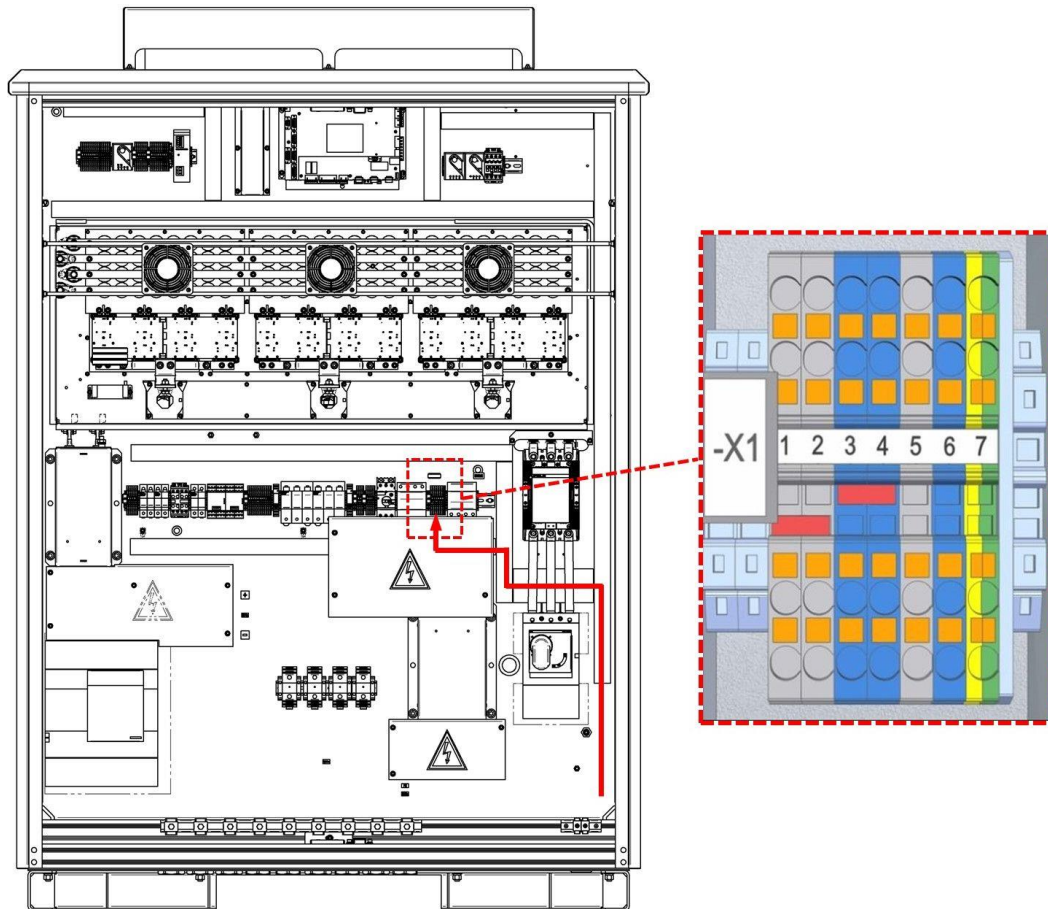

Figure 14: Connection supply voltage (-X1)
1. **Locate** terminal strip (-X1) (Figure 14).